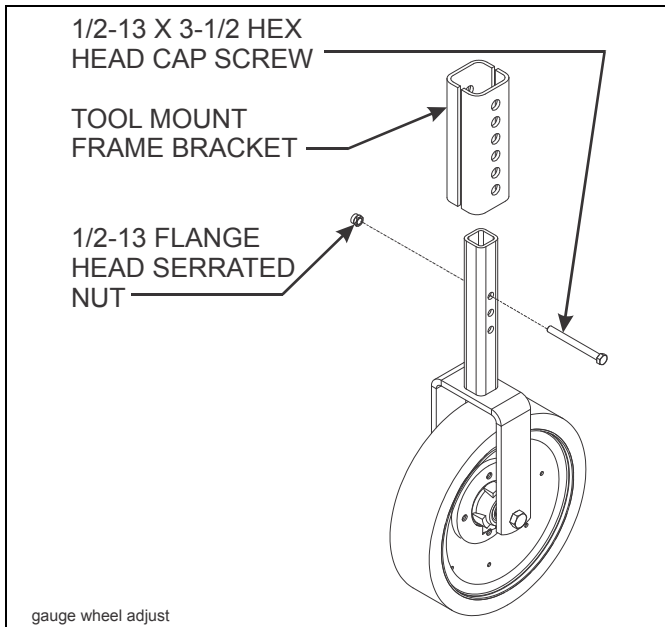

Figure 4-3: Gauge Wheel Adjustment
1. For stability, the gauge wheels must always apply slight pressure against the soil. Adjust the gauge wheels by raising or lowering, as needed, to reach proper depth. To reach proper depth (**See Figure 4-3**):